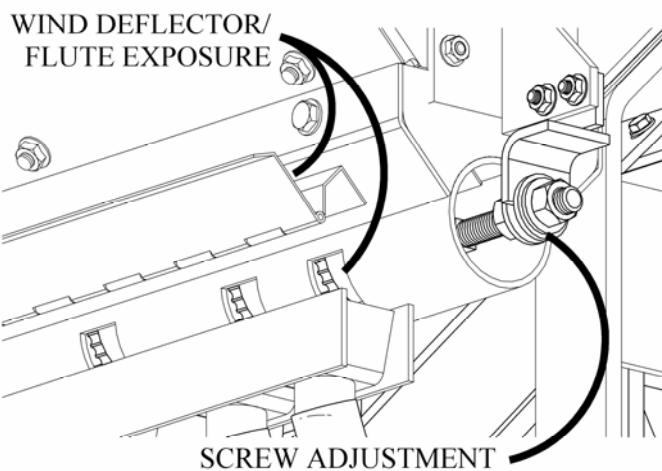

Figure 8. Screw Adjustment
4. Set the flute exposure using the screw adjustment on the right side of the box (Figure 8). Lift the wind deflector to see the flute exposure.